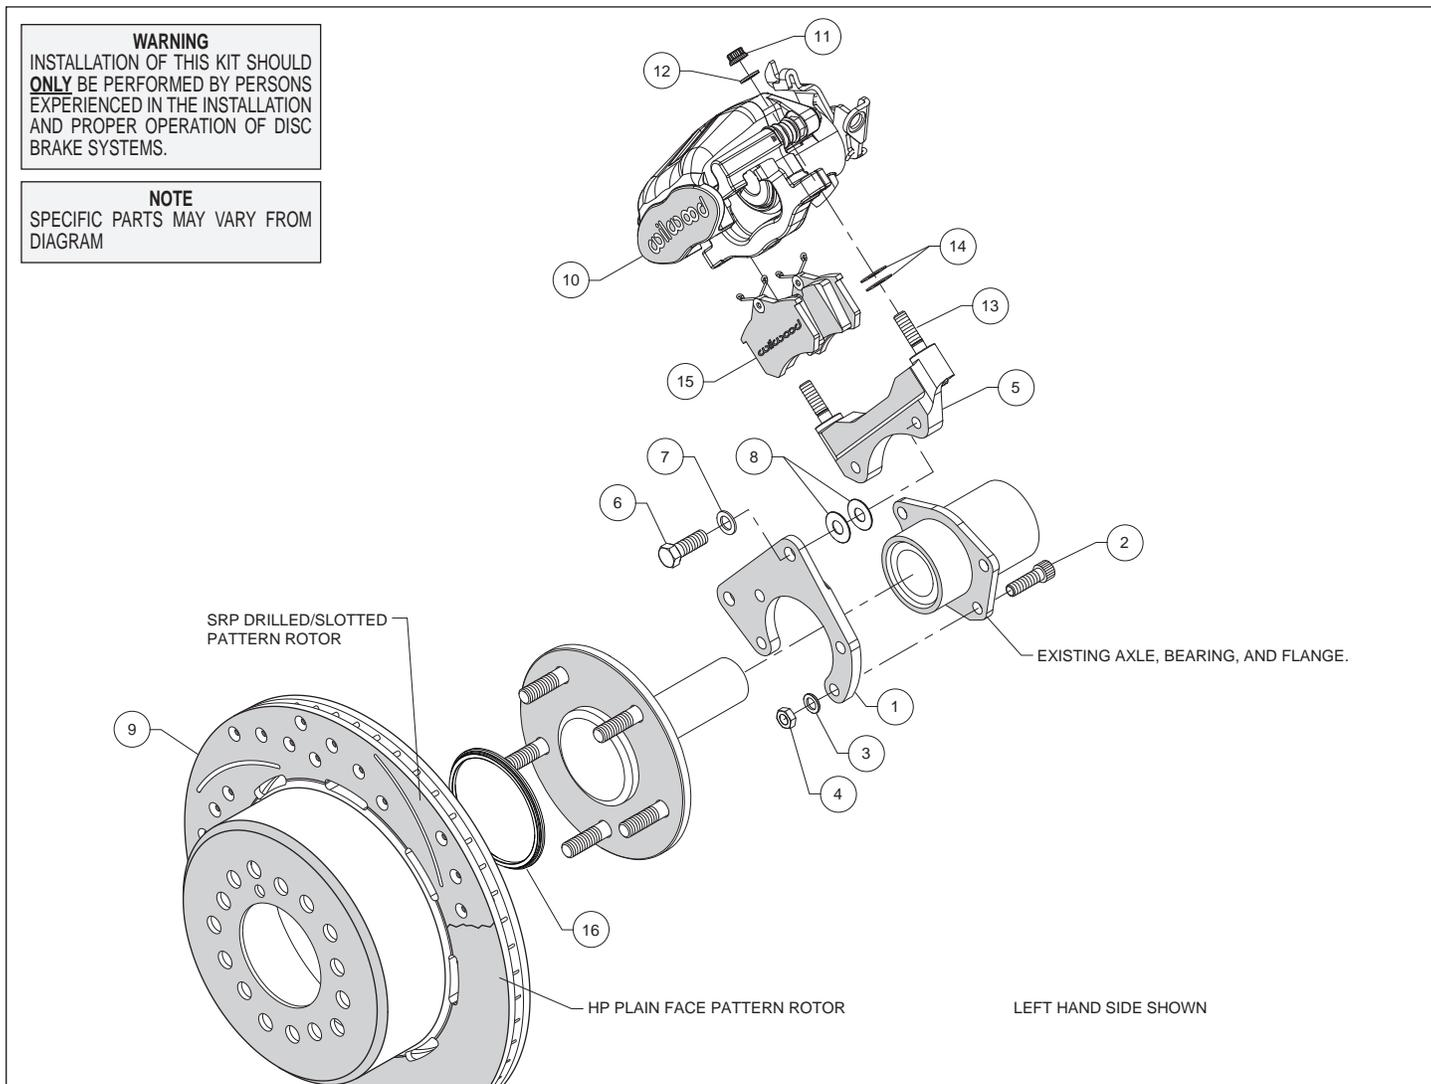

Figure 1. Typical Installation Configuration
- Orient the flange bracket (1) as shown in Figure 1, and install using mounting bolts (2), washers (3), and nuts (4). Temporarily tighten the mounting bolts. **NOTE:** *The bracket must fit squarely against the axle housing flange.* Inspect for interference from casting irregularities, machining ridges, burrs, etc. After the bracket fitting has been confirmed, torque nuts to 40 ft-lbs.
- The caliper mount bracket (5) should initially be installed with clean, dry threads on the mounting bolts. Orient the bracket as shown in Figure 1, and install using mounting bolts (6) and washers (7). Initially place two .030" thick shims (8) on each bolt between the flange bracket (1) and the caliper bracket, Figure 1. Later, after the caliper alignment has been checked, the mount bolts will be secured using red *Loctite*® 271.
- Slide the rotor registration adapter (16) onto the axle register on the axle hub with the smaller O.D. facing toward the rotor/hat (9), Photo 1.
- Align the correct hole pattern in the rotor/hat with the stud pattern on the axle flange and slide into place, Figure 1 and Photo 2. **NOTE:** *The rotor/hat must fit flush against the axle flange or excessive rotor run out may result.* Install three lug nuts (finger tight) to keep the rotor/hat assembly in place while continuing with the installation. **NOTE:** *Some OEM and after market axles come with stud sizes larger than 0.50" diameter. Verify stud size and have a qualified machine shop drill the bolt circle of the hat/rotor to the correct stud size, if necessary.*
- Slide the brake pads (15) up into the caliper (10) from the bottom with the friction material facing the rotor until the "V" spring clip snaps into place against the anvil, as shown in Figure 1 and Photo 3. They should install easily without interference.
- Lubricate the caliper mounting studs (13) with lightweight oil. Initially place two .035" thick shims (14) on each stud as shown in Figure 1. Mount the caliper (10) onto the bracket (5) using washers (12) and lock nuts (11), as shown in Figure 1. Temporarily tighten the mounting nuts and view the rotor (9) from the end of the caliper. The rotor should be centered in the caliper, Photo 4. If not, adjust by adding or subtracting .030" shims (8) between the caliper mounting bracket and the flange bracket (1) to center the caliper on the rotor. Always use the same amount of shims on each of the two mounting bolts. Once the caliper alignment and pad centering are correct, remove the bracket-to-bracket bolts one at a time, apply red *Loctite*® 271 to bolt threads, and torque to 60 ft-lb.